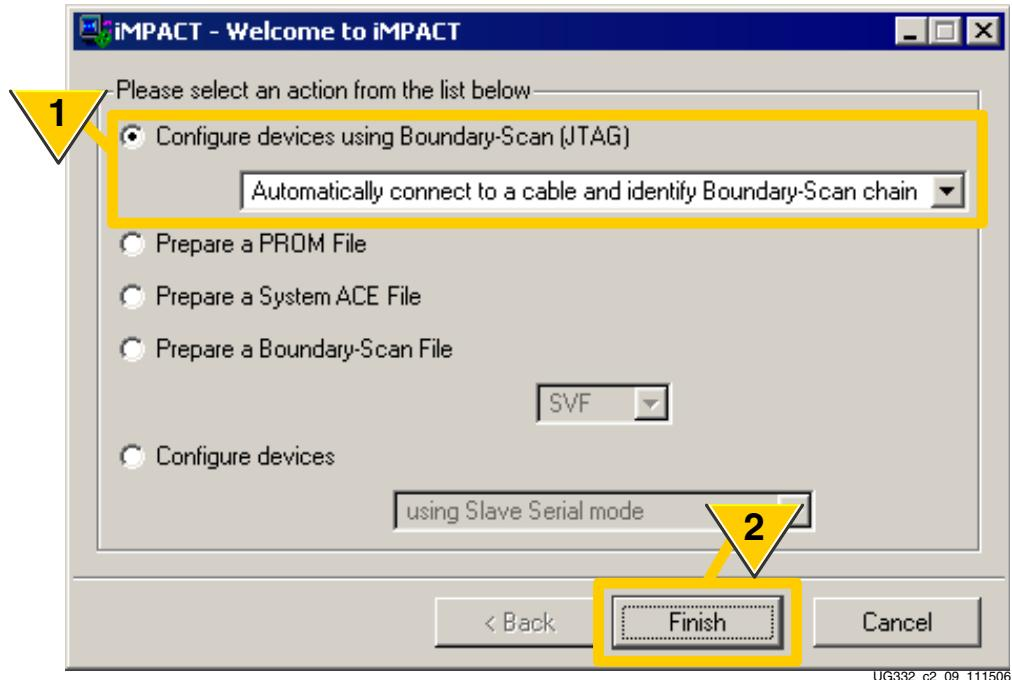

Figure 3-14: Program Platform Flash PROM using JTAG
1. Click Configure devices using Boundary-Scan (JTAG) from within iMPACT, as shown in Figure 3-14. If the Automatically connect... option is selected, iMPACT will query the devices in the JTAG chain and automatically detect the chain topology.